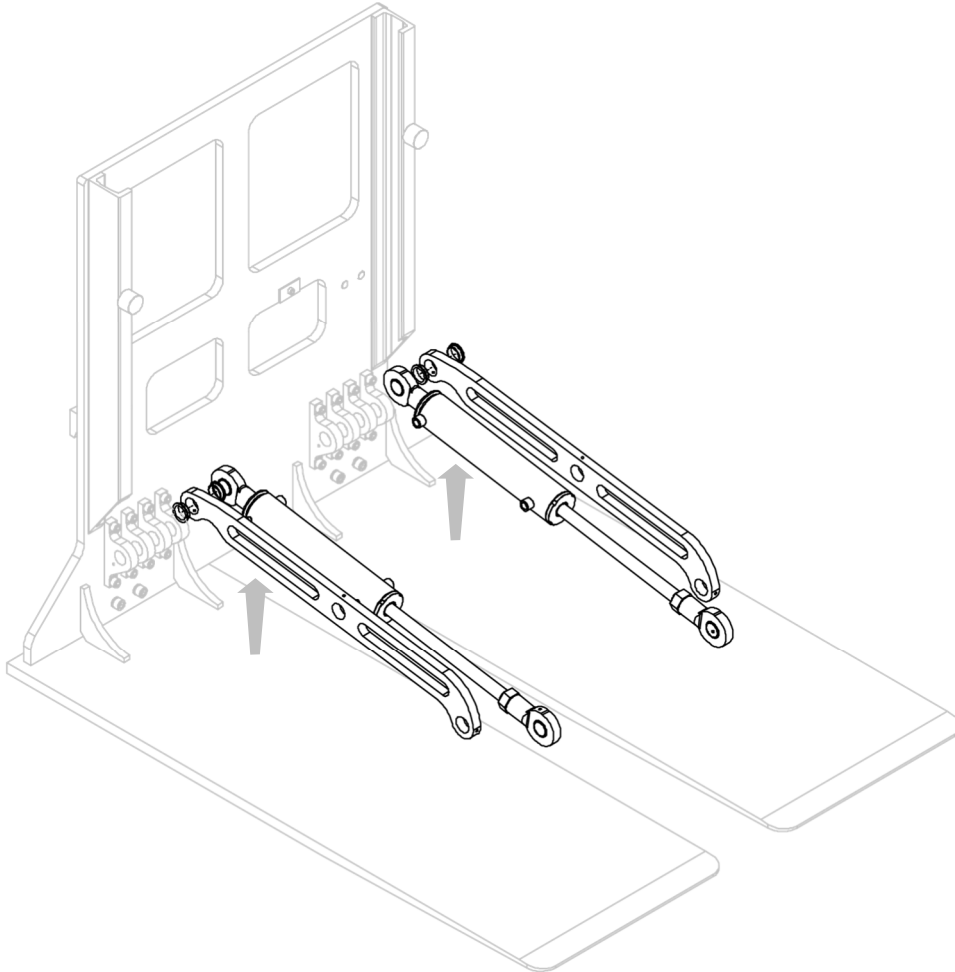

Figure 27
4. Remove the cylinders and the remaining two arms (see *Figure 27*).